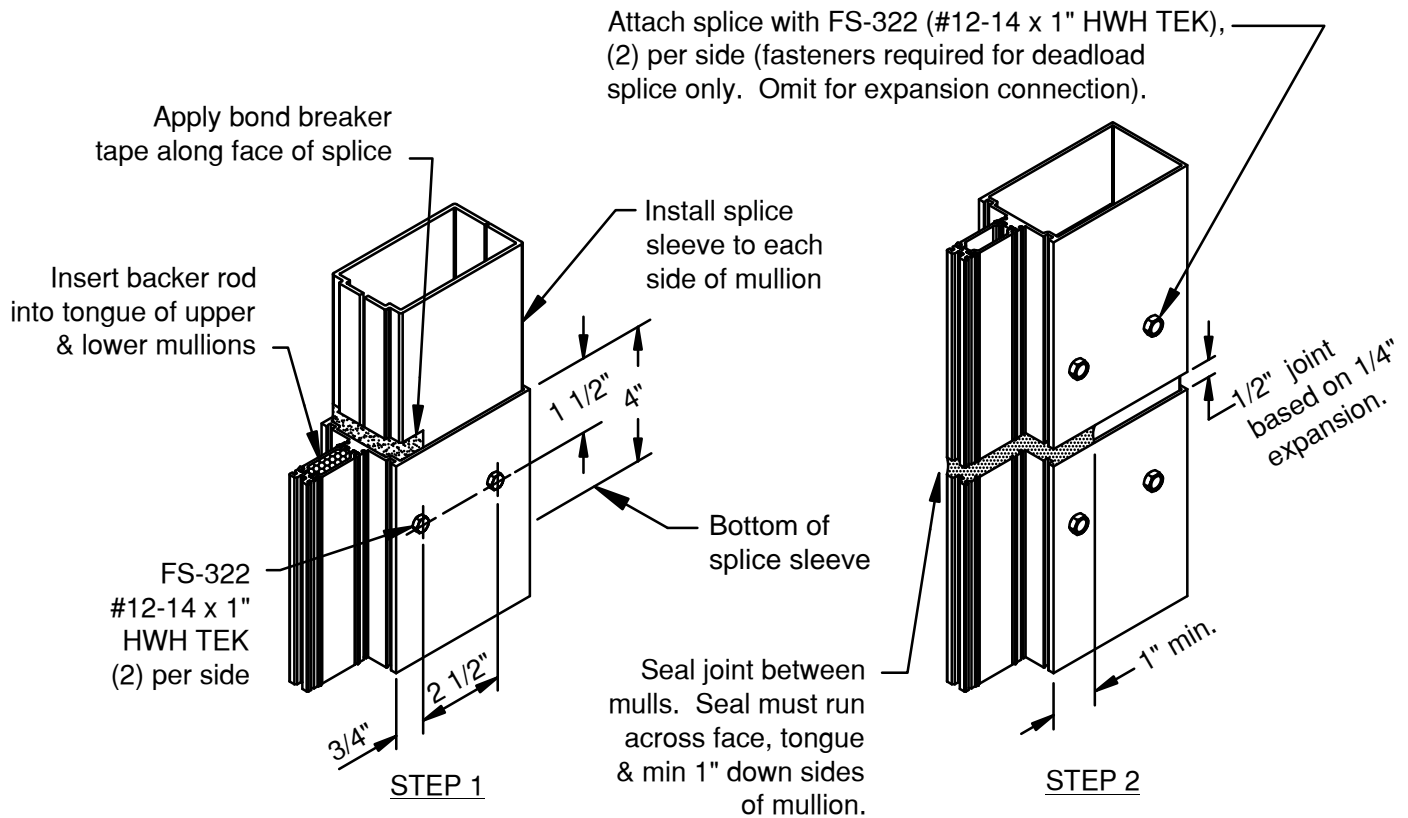

FIGURE 7
- 2.1.11 Install the next vertical above, temporarily shimming between verticals to maintain proper splice joints (refer to approved shop drawings). SEE FIGURE 7.